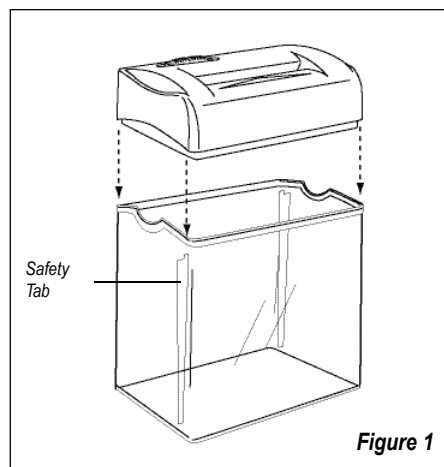

Figure 1
2. Position shredder head over basket as shown in Figure 1.